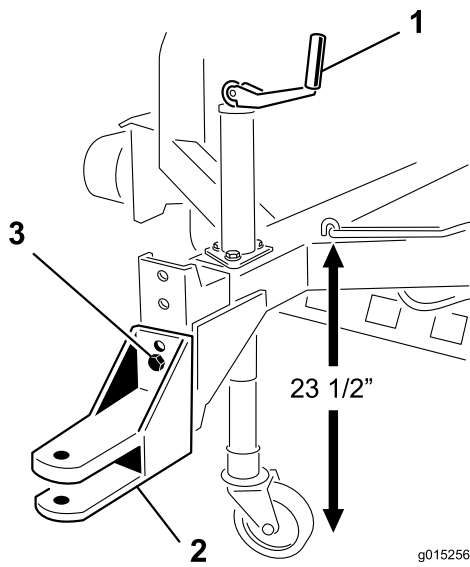

Figure 3
- Adjust the sweeper jack so that the distance from the top of the frame to the ground is approximately 23-1/2 inches (59.69 cm) (Figure 3).